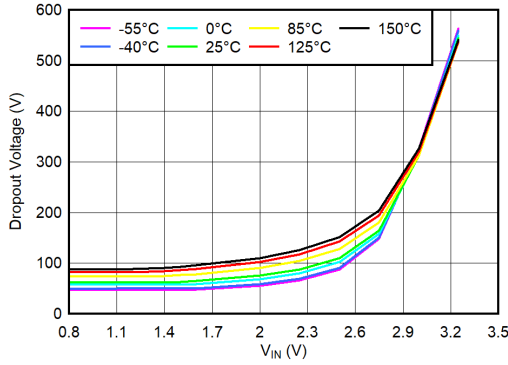

Figure 6-29. V_{IN} Dropout Voltage vs V_{IN} and Temperature (T_J) for $I_{OUT} = 1.5 \text{ A}$
- (1) Adjustable devices tested at 0.8 V; resistor tolerance is not taken into account.
- (2) Dropout is defined as the voltage from V_{IN} to V_{OUT} when V_{OUT} is 3% below nominal.
- (3) 3.25 V is a test condition of this device and can be adjusted by referring to Figure 6.29.